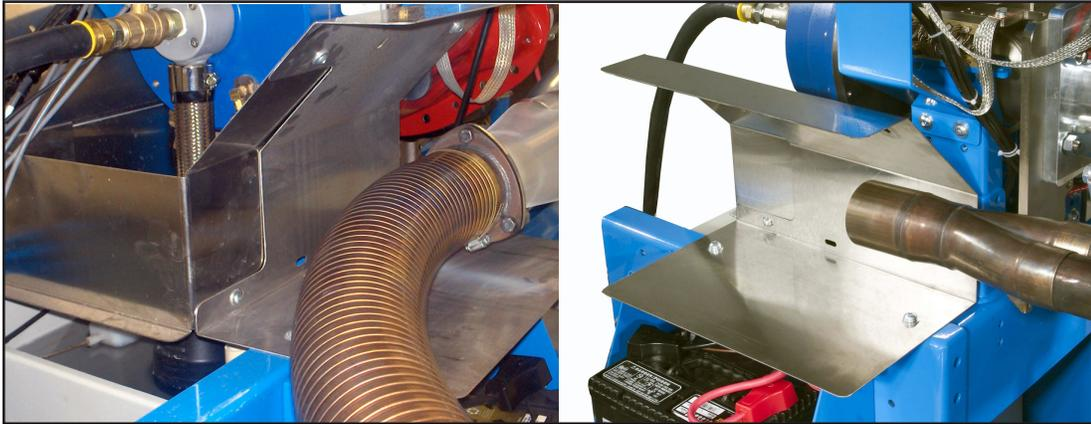

Figure 4.4 Exhaust Heat Shield
10. Install the exhaust heat shields on each side and on the rear of the stand (Figure 4.4).